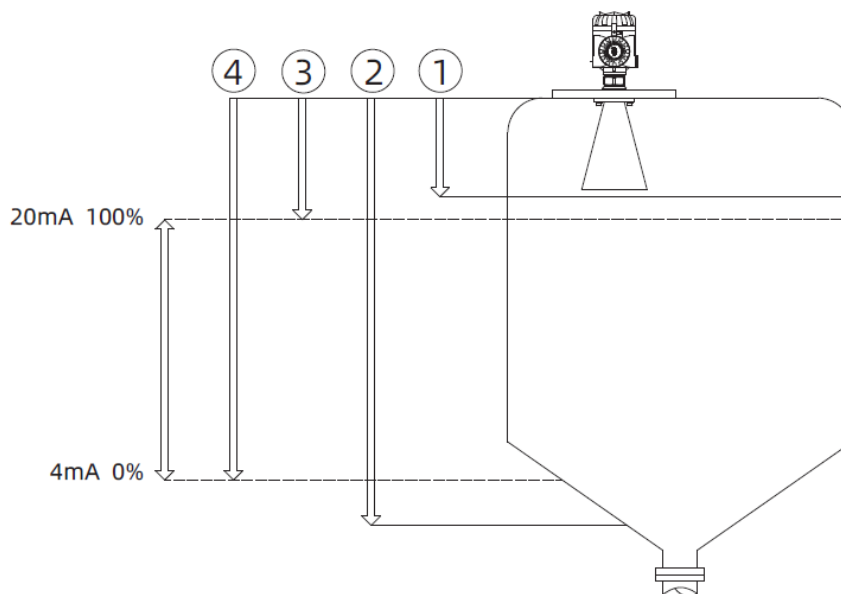

Figure 9 Diagram of Parameter Setting
7.2.1 Diagram of Parameter Setting-Figure 9